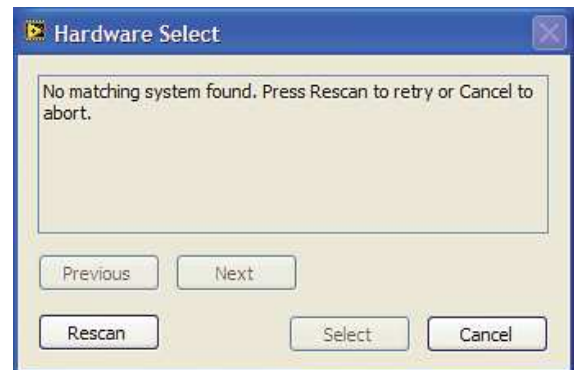

Figure 6. Connectivity Error Alert Dialog Box
2. If the AD7175-8 evaluation system is not connected to the USB port via the SDP-B board when the software is launched, a connectivity error displays (see Figure 6). Connect the evaluation board to the USB port of the PC, wait a few seconds, click **Rescan**, and follow the instructions.